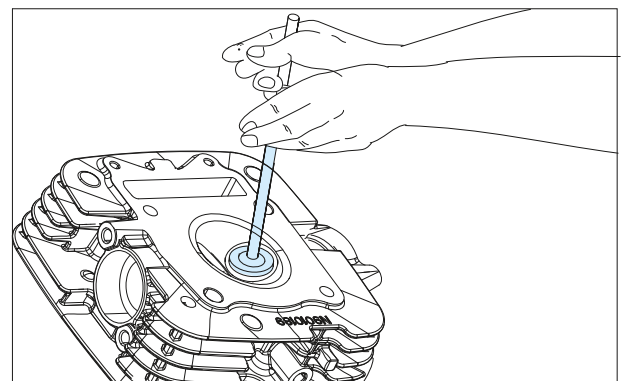

Fig. 3.151
- Then take your fine lapping compound and do the same thing with it until the leaks stops. Clean off the valve and in side the heads again. (Fig. 3.151)